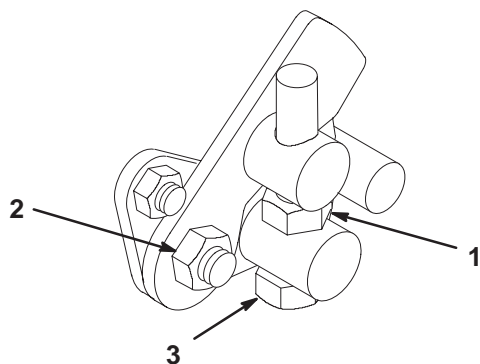

Figure 43
1. Loosen the jam nut on the trunion capscrew (Fig. 43).
4. Tighten the jam nut on the trunion capscrew and the nut on the pedal pivot to lock the adjustment (Fig. 43). Check the adjustment and adjust as required.